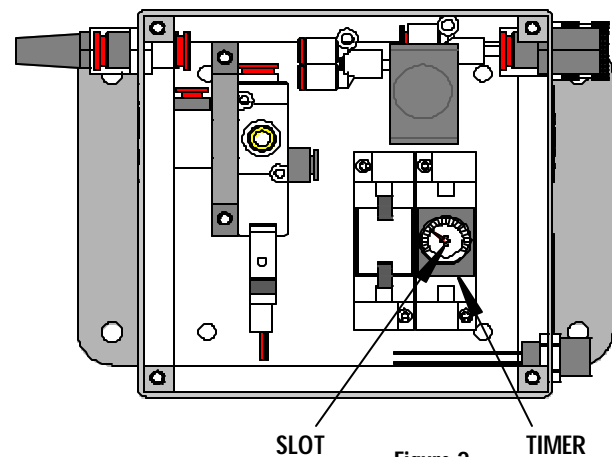

Figure 2
6. To change the cycle time, the timer has to be readjusted. This is done by taking out the four screws on the top cover. Place the cover aside and locate the timer, (See Figure 2). Using a phillips screwdriver insert it in the slot on top of the timer. Turn the timer clockwise (CW) to increase time or counterclockwise (CCW) to decrease time. The dial can be turned by hand if a screwdriver is not available. Be sure to replace and secure the cover.
9. To stop cycle before complete, push the emergency stop button. To reset, rotate the button clockwise (CW) as indicated by the arrows on the button.